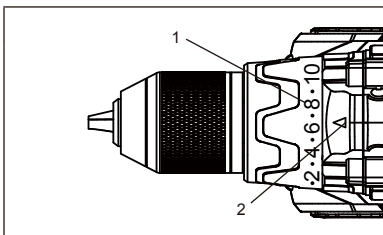

FIG. 4
1. Identify the torque settings located on the torque adjustment ring (1) (Fig. 4).
2. Rotate adjustment ring to align the correct torque setting number with the torque indicator arrow (2). See the chart below for the correct torque settings.